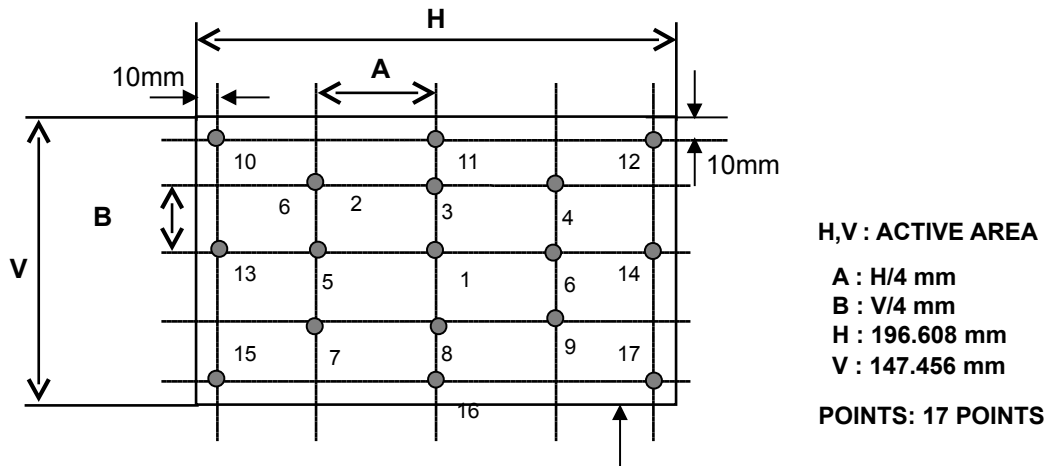

FIG. 3 Response
2. Response time is the time required for the display to transition from white to black (rise time, Tr_R) and from black to white(Decay Time, Tr_D). For additional information see FIG 3.